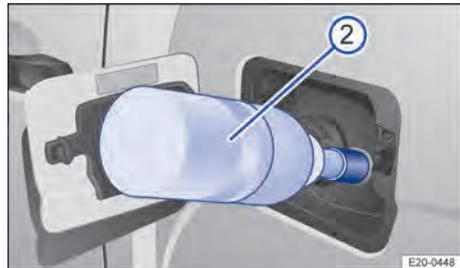

Fig. 153 Refilling AdBlue with a refill bottle.
2. Place the refill bottle on the AdBlue® filler neck and tighten the bottle hand-tight → Fig. 153 ②.